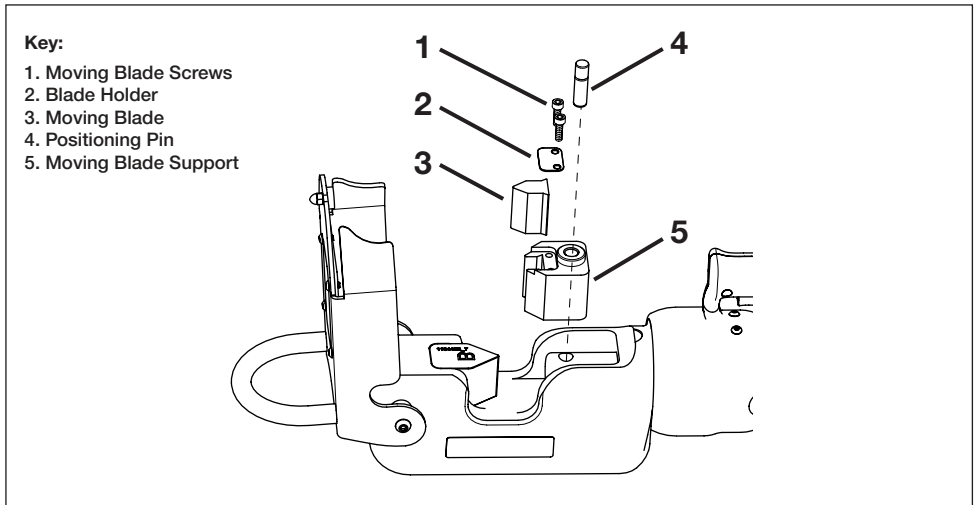

Figure 14, Moving Blade Replacement
Replace the moving blade as described in the following steps. Refer to Figure 14, items 1 through 5.